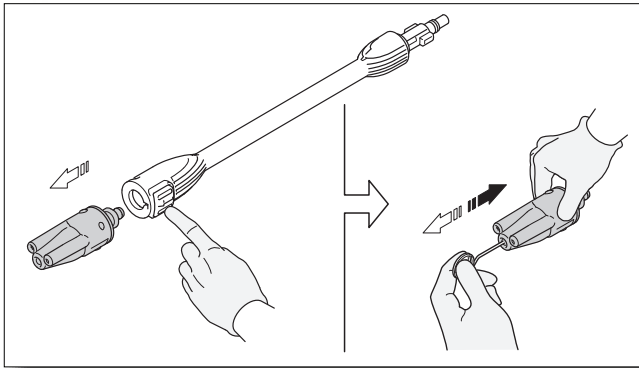

Fig. 23
- Take off the nozzle. Using the nozzle tip cleaner provided (or an unfolded paper clip), insert the wire into the nozzle hole and move back and forth until debris is dislodged (**Fig. 23**). Back flush water through the nozzle using garden hose and highest pressure available (either standard water nozzle or use your thumb over the nozzle to create water pressure for back flush).